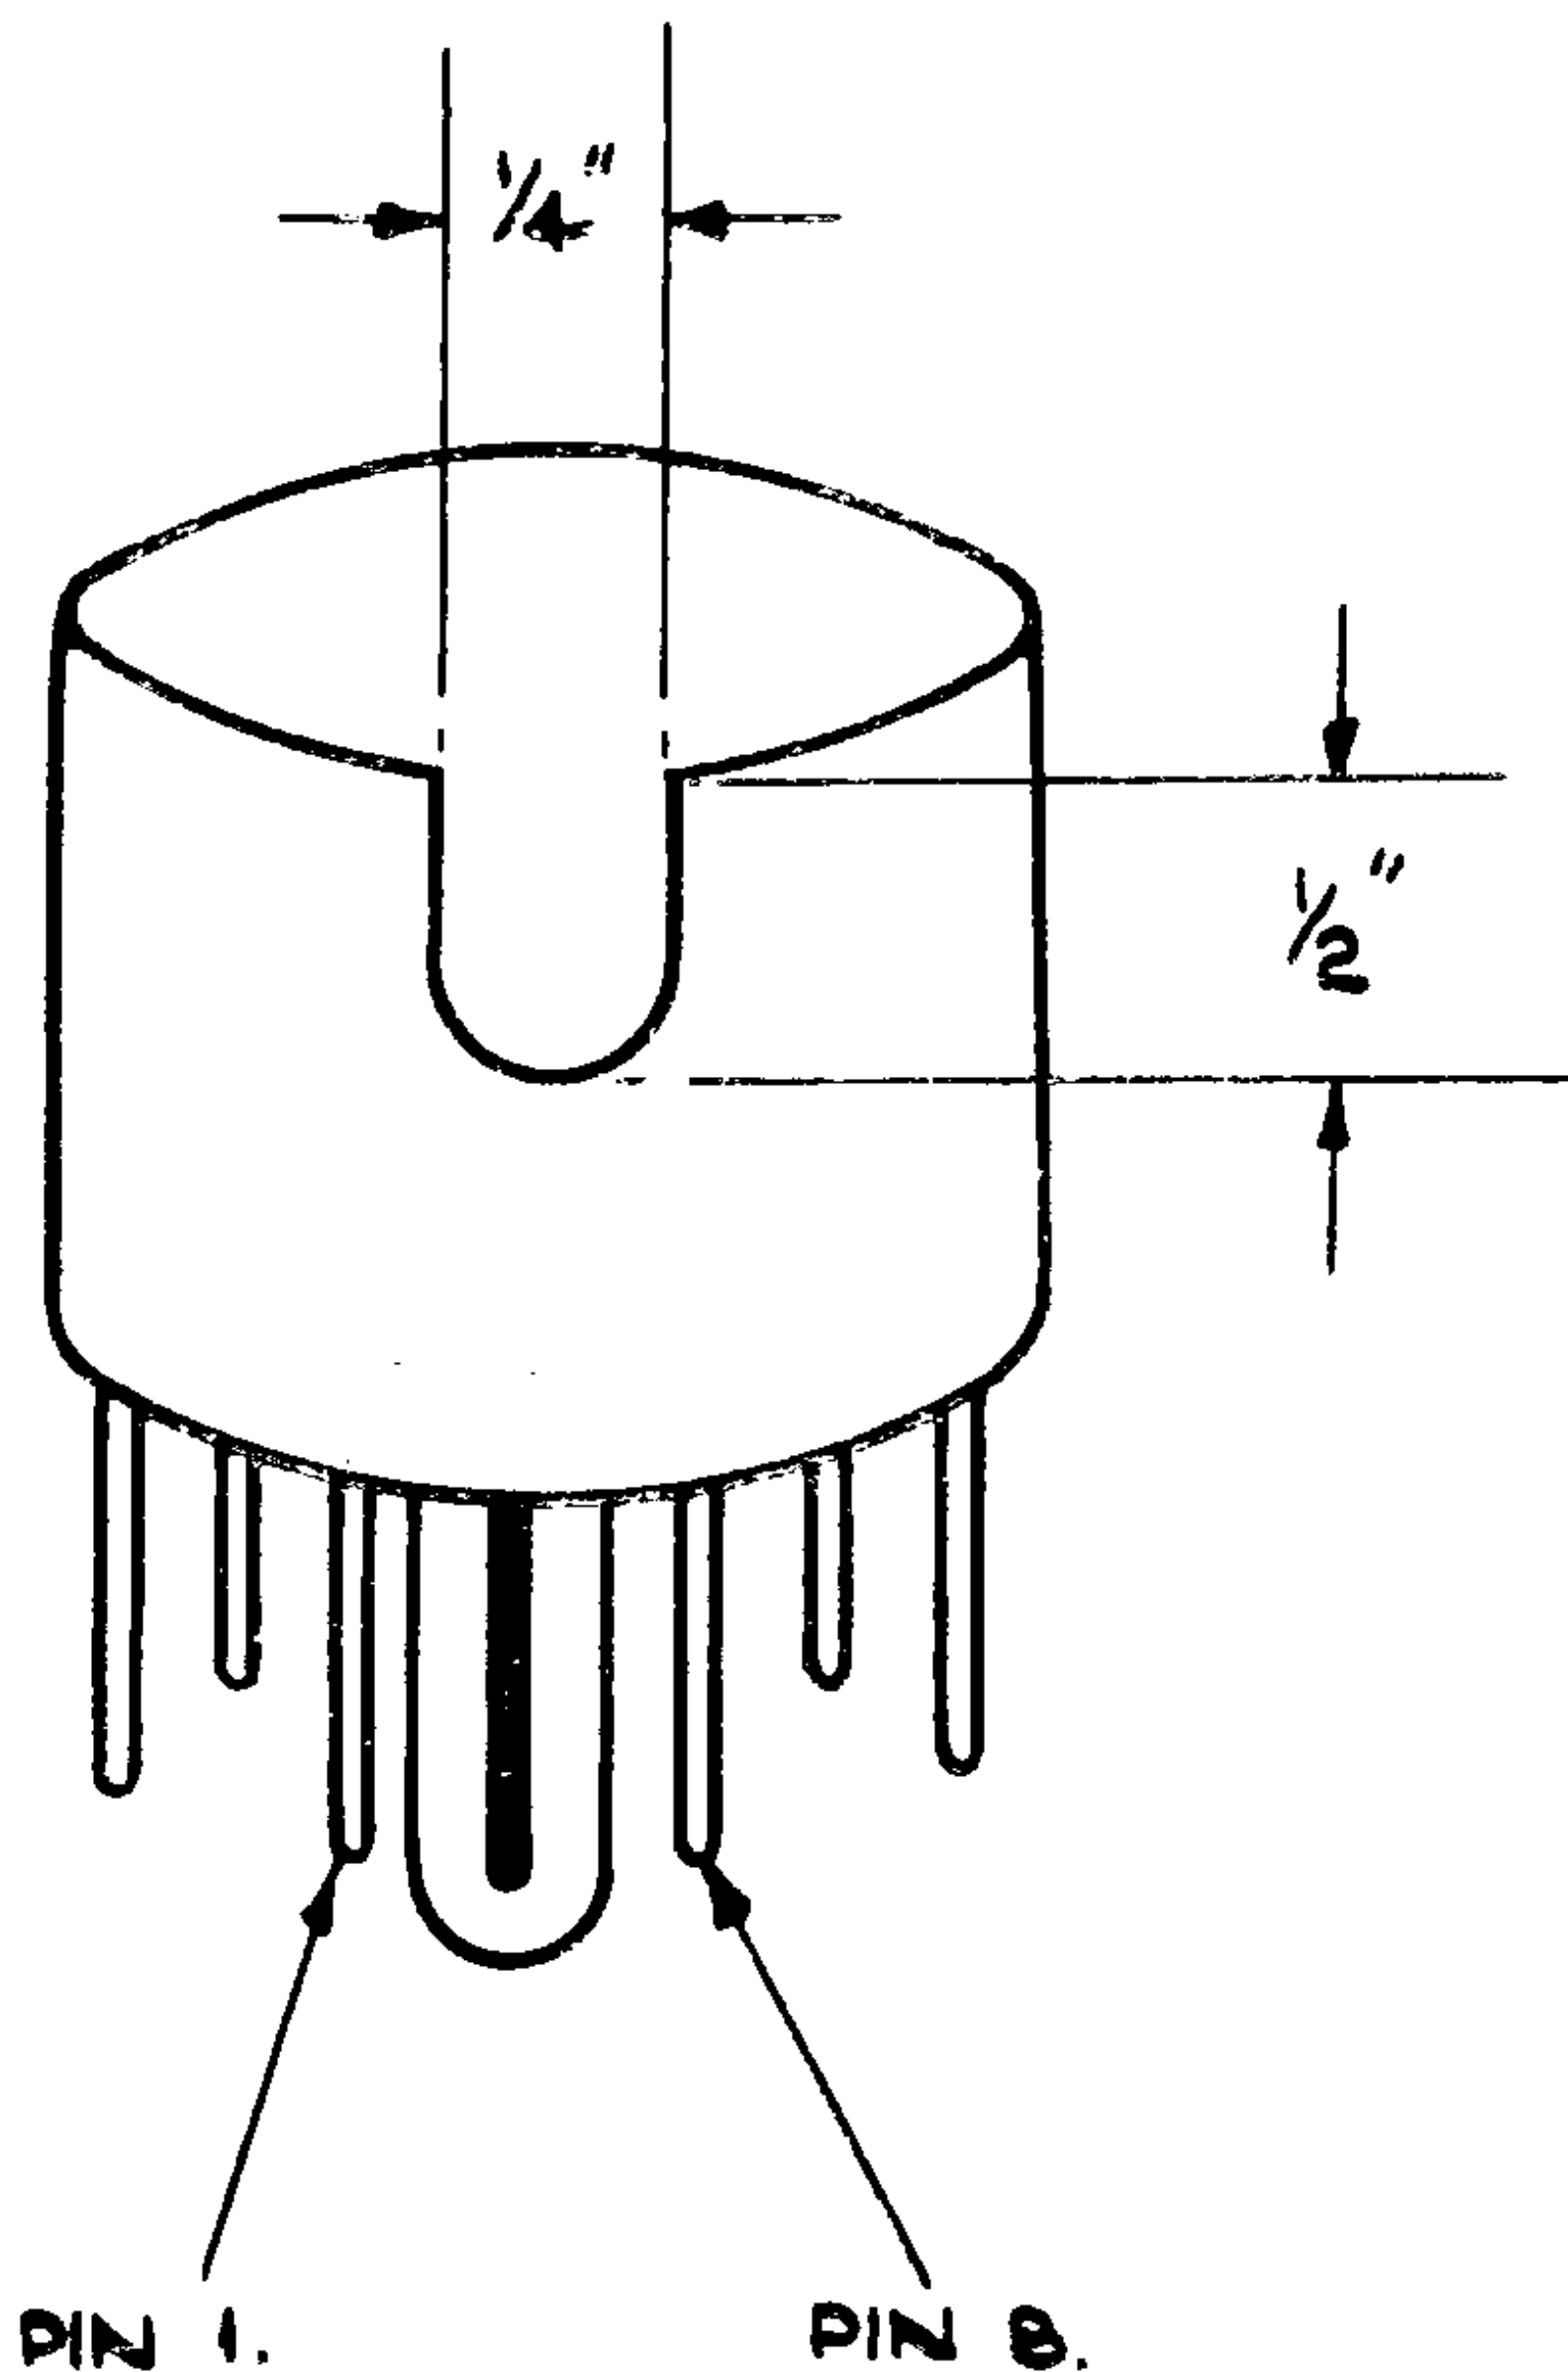

Fig. 2. Prepared valve base
- Cut a slot  $\frac{1}{2}$  in. deep and  $\frac{1}{4}$  in. wide in the side of the valve base between pins 1 and 8 (fig. 2).